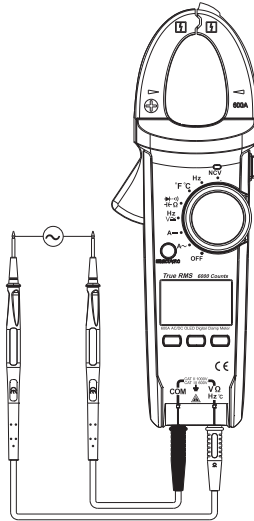

Fig. 11
**10.Measurement of frequency (shown as Fig. 11)**